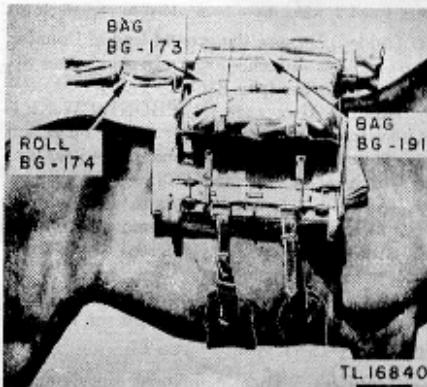
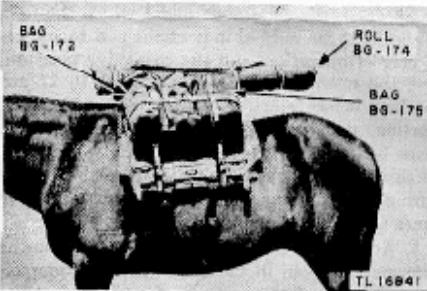

Figure 11.1 Pack Equipment CR-13, side load 1 and top load.
Figure 11.2 Pack Equipment CR-13, side load 2 and top load.
Strap the components of the radio set securely to the frame as shown in figures 11.1 and 11.2. To balance the load, components are divided as follows:
a. SIDE LOAD 1, TOTAL WEIGHT 53.5 POUNDS (fig. 11.1). Side load 1 consists of Frame FM-83 and Bags BG-173 and BG-191 and their components.
(1) Bag BG-173 and the following contents (weight 31.5 pounds):
(2) Bag BG-191 and the following contents (weight 11 pounds):
b. SIDE LOAD 2, TOTAL WEIGHT 56.75 POUNDS (fig. 11.2). Side load 2 consists of Frame FM-83 and Bags BG-175 and BG-172 and their contents.
(1) Bag BG-175 and the following contents (weight 24 pounds):
(2) Bag BG-172 and the following contents (weight 21.75 pounds):
c. TOP LOAD, TOTAL WEIGHT 20.8 POUNDS (figs. 11.1 and 11.2). The top load consists of Mounting FT-106 and Roll BG-174 with contents.